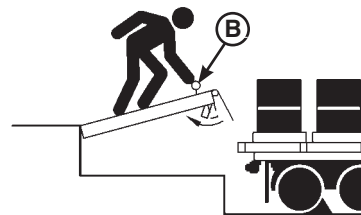

Figure 18
6. Slowly walk the platform down, allowing enough time for the lip to fold. Just before the platform reaches the cross-traffic position, pull and hold the safety leg retract pull ring (B) (located in a recess at front of the platform). The platform will continue lowering to the full below-dock position (Figure 18).